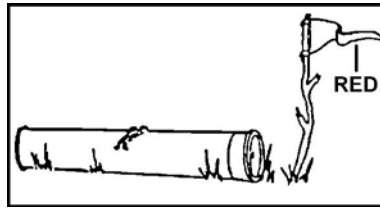

Figure 2. Mark misfired TOW locations.
5. Put visible stake and flag at the location of the misfired TOW missile (Figure 2).
6. Inform the Bradley commander when the task is completed, so that he can notify the chain of command of the existence and location of the misfired TOW missile (Figure 2).